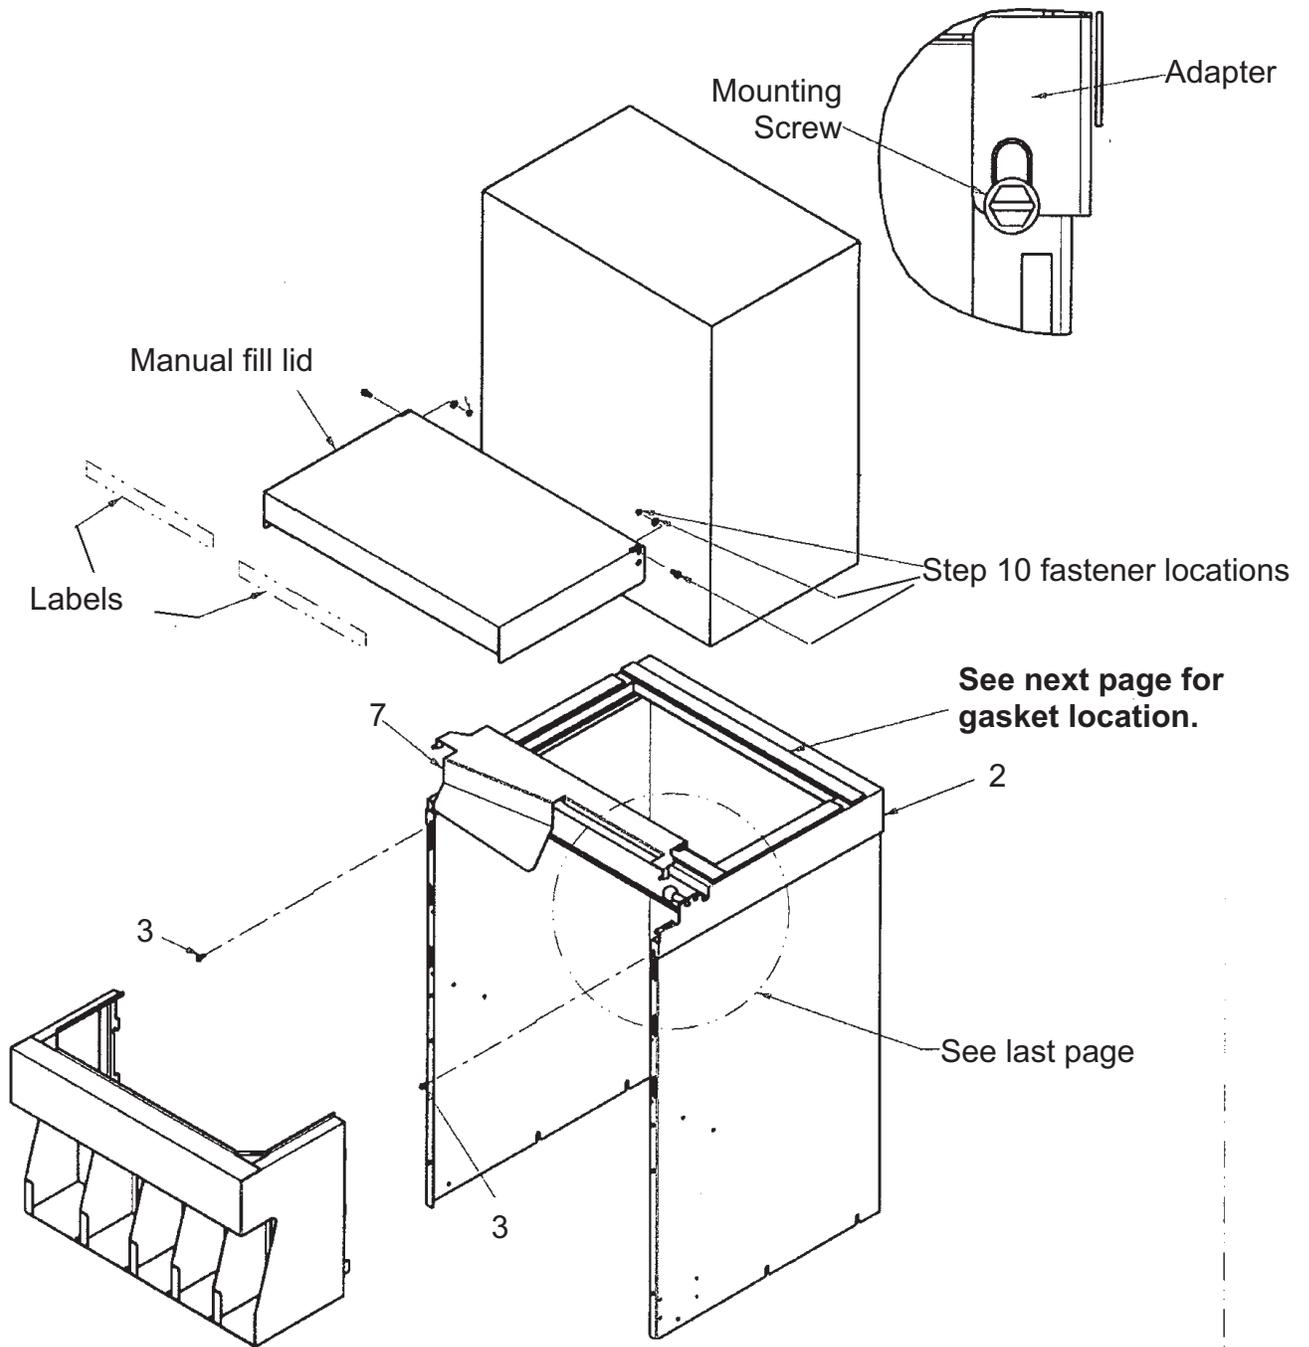

Figure 1
3. Remove sheet metal retainer screws (item 3 on Fig. 1) from top front of dispenser.
4. Remove plastic wrap from the adapter (item 2 of Fig. 1) and set adapter on the top of the dispenser.
8. Remove the plastic wrap from the baffle (item 7 on Fig. 1). Insert the ice baffle into the adapter. The tabs of the baffle should slide into the slots on the lid assembly.
10. Secure the manual fill cover (item 1) to the adapter with the two shoulder screws, washers and locknuts. Check for proper operation. The cover latch should engage in the full open position and hold the cover open. Pull the red knob on the latch to release the cover.
11. Put the warning labels on the front of the cover (refer to Fig. 1).